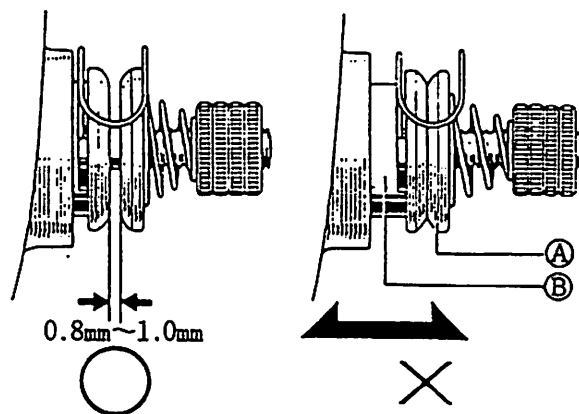

Fig. 9.30
- (1) If the thread release is not adjusted properly, the trimmed thread tail length will be reduced and stitches will be skipped or the needle thread may leave the needle when sewing commences.
- (2) If the tension discs do not close when the presser foot is lowered, the needle thread tension is reduced and the overall thread tension develops an imbalance.
- (3) When the thread release is adjusted properly, a clearance of 0.8 to 1.0 mm develops when the tension discs open, as shown in Fig. 9.30.